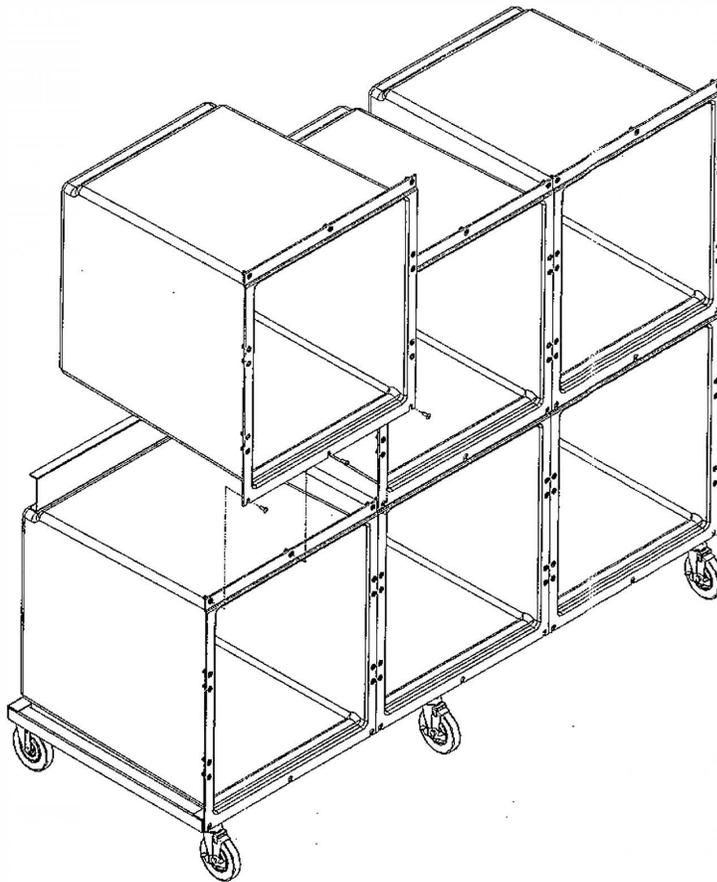

Figure 17
1. Place three screws (062.2507.05) in the holes indicated in Figure 17. **DO NOT** tighten all the way.